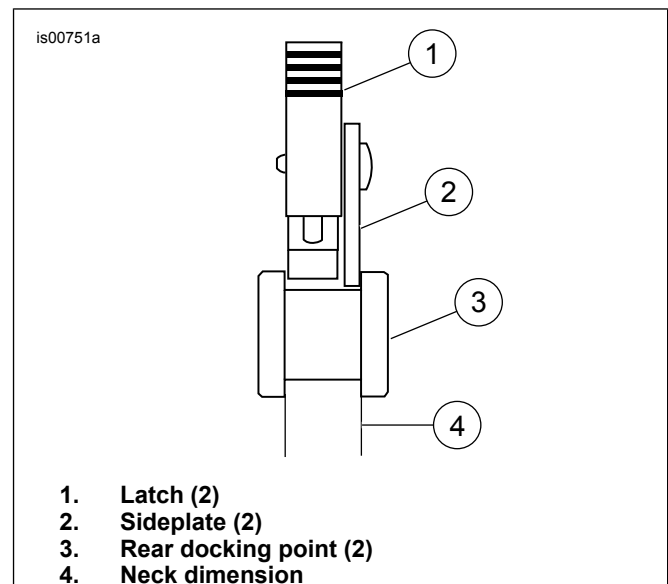

Figure 2. Solo Rack Alignment (rear view)
4. See Figure 2. Check luggage rack for proper alignment. Rear docking points can be damaged if rotary latches, fender support and cover are not properly aligned. If the latch does not easily close, do not force.